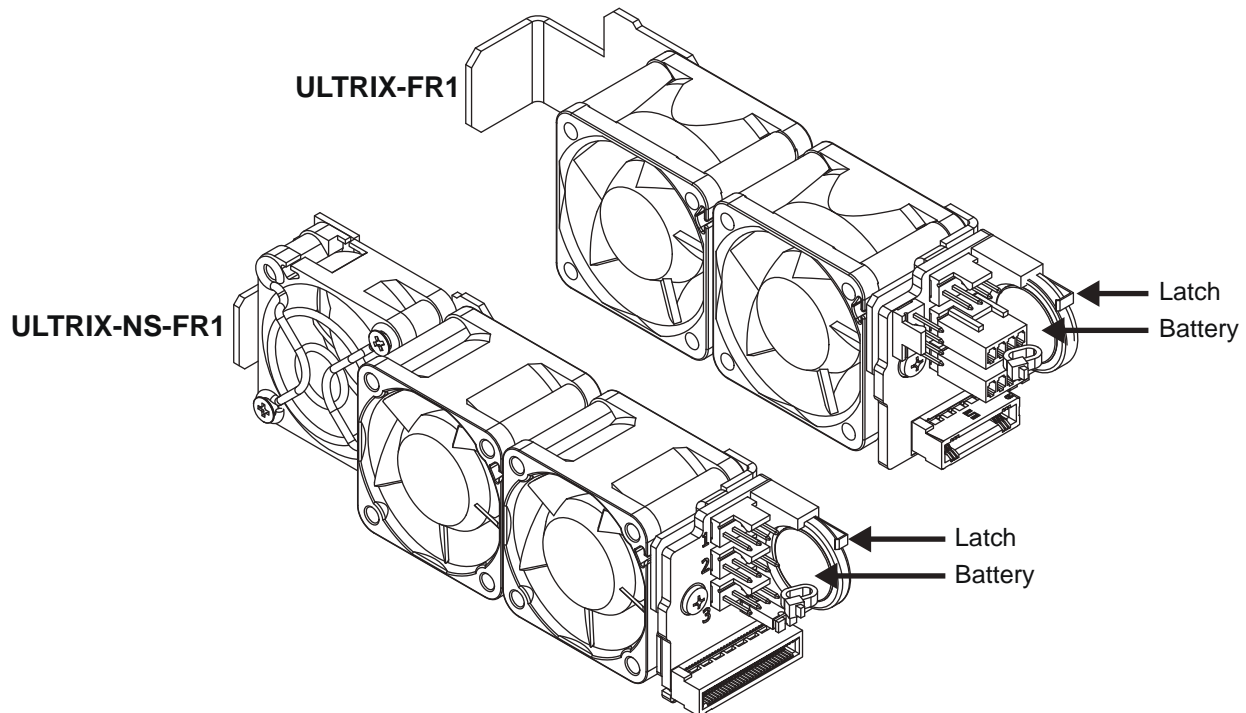

Figure 89 Battery Location inside the Cooling Fan Module — ULTRIX-FR1 and ULTRIX-NS-FR1
1. Locate and note the orientation of the failed battery inside the Cooling Fan Module. (**Figure 89**)